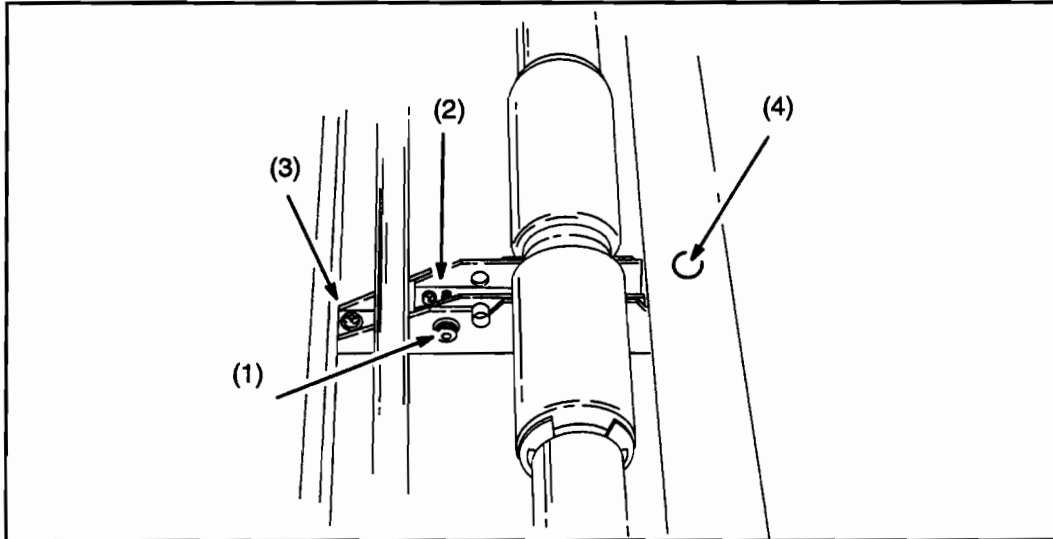

Figure 7-4. Center Bearing Adjustment
4. Loosen the 3 mm Allen head lock screw (Figure 7-4, item 1) and the three (3) adjusting screws (Figure 7-4, items 2, 3, and 4) on the center bearing support two (2) turns each.
6. By turning the vertical adjustment screw (Figure 7-4, item 2) clockwise, slowly raise the center bearing support while manually moving the entire support assembly from front to back. Keep the support assembly centered; so it will not rub against the two center rollers. As the bearing support is raised, all front-to-back movement (play) will be removed.
7. While manually turning one of the two center rollers, continue to raise the center bearing support by turning the adjustment screw (Figure 7-4, item 2) clockwise until the CENTER roller which you are turning touches the pinch roller (mounted on the upper frame assembly) with enough pressure to stop turning.
8. Open the upper frame and tighten the vertical adjustment screw (Figure 7-4, item 2) another 1/2 turn.
9. Tighten the horizontal adjustment screws (Figure 7-4, items 3 and 4) and the lock screw (Figure 7-4, item 1) to secure the adjustment.